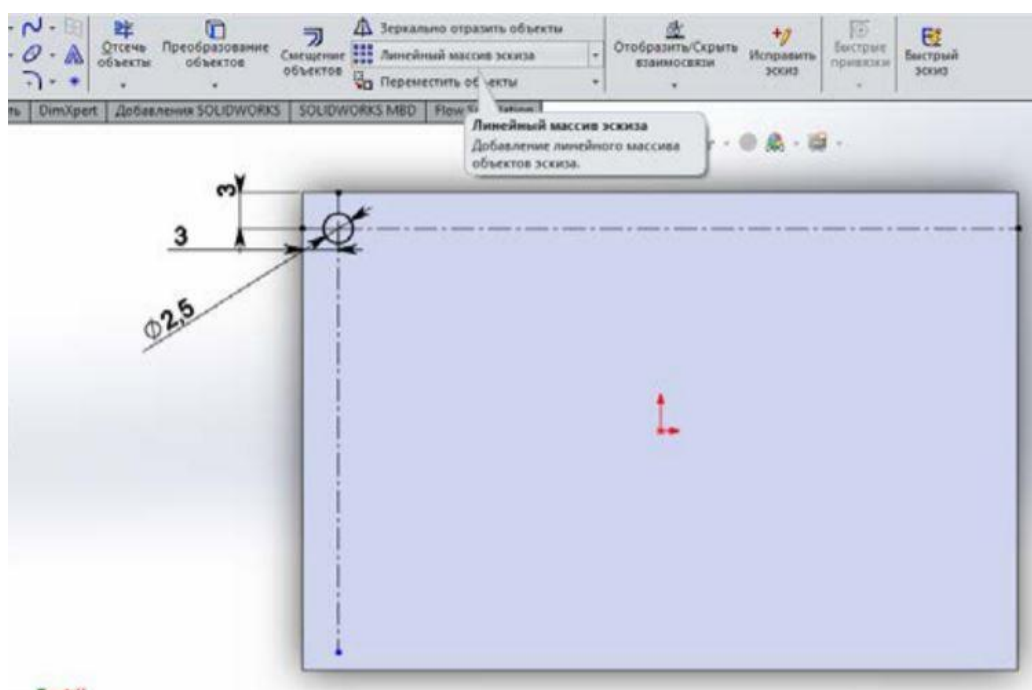

Figure 8.3 – Creating a circle on the radiator surface
8.2.4 After that, click on the upper plane of the radiator and create a sketch of a circle with a diameter of 2.5 mm, with indents of 3 mm on each side (figure 8.3).